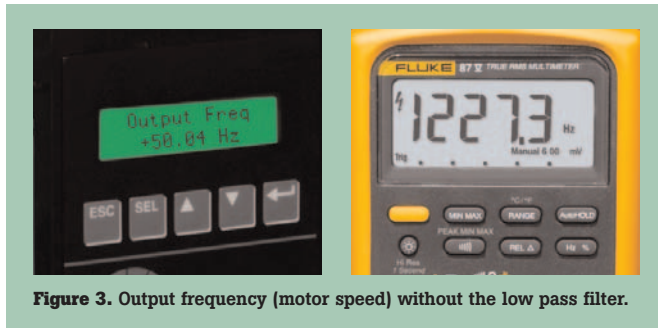
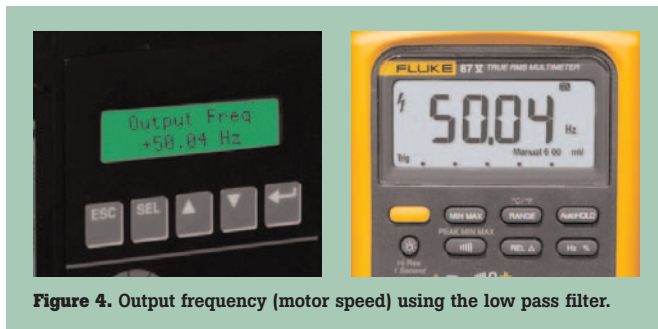

Figure 3. Output frequency (motor speed) without the low pass filter.
Figure 4. Output frequency (motor speed) using the low pass filter.
- 6 Press the Hz button. The displayed reading in hertz will be the motor speed (see Figure 3). This measurement couldn't be made successfully without the 87V's low pass filter (see Figure 4).